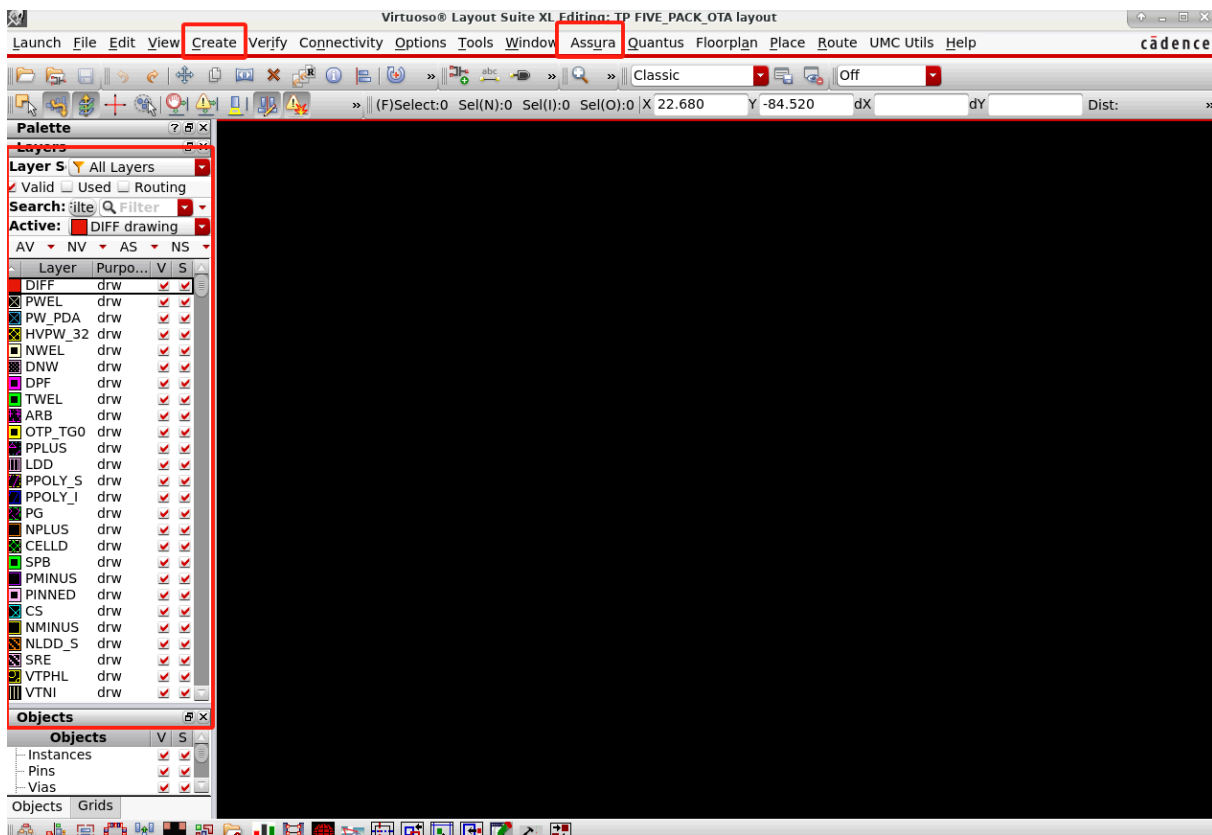

Fig. 2 Layout editing window in Cadence Virtuoso
To start layout drawing, in the schematic view, **click Launch (in the top left corner) → Layout XL → “OK” in the Startup Option → “OK” in the New File.** This will bring the layout editing window as shown in Fig. 2. **Click “Create” to add instance, wire, via, path, label, and so on.** Some useful shortcuts are listed in Table 1 for your reference. There are multiple layers listed on the right side of left side of the window. Simply tick the corresponding layer to control its visibility (V) and stretchability (S). After layout, we will use the Assura for DRC and LVS. **Ask the nearby TA when you are confused with the software 😊.**